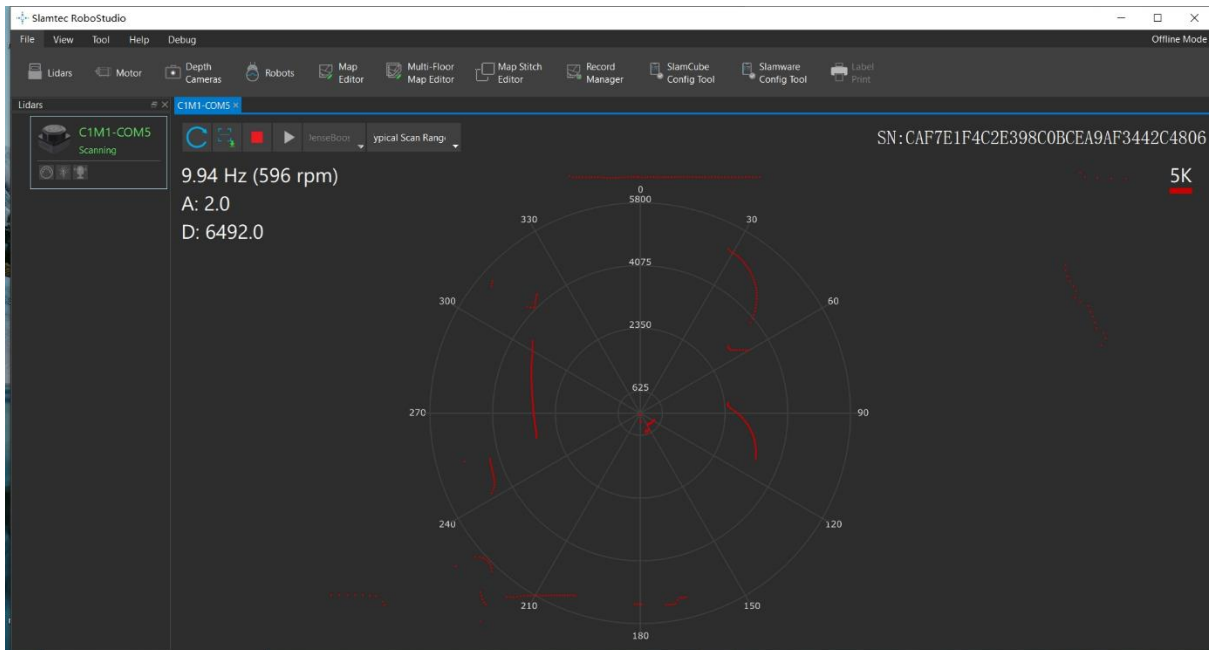

Figure 2-7 The Lidar Plugin in RoboStudio
3. Click the RPLIDAR C1 icon to extend the tool buttons below the icon: the left one is to adjust the motor speed while the right one is to open the tool bar in the major work area as shown in Figure 2-7.